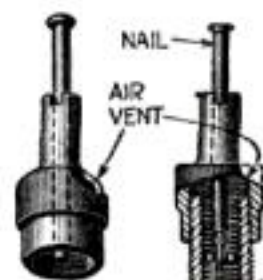

Fig. 8. Altered cap saves time in deflating tube, prevents injury to valve seat or washer
**T**HE common method of deflating a tube is to screw out the valve, but this method often results in rolling the packing ring out of place or in destroying it completely so that the valve cannot be used again. To construct the special cap shown in Fig. 8, remove the inner rubber washer, drive a nail through the top just far enough so that it will open the valve and file a notch in the top to allow the air to escape. Be sure to file off the point of the nail so it will not slip off the valve stem.